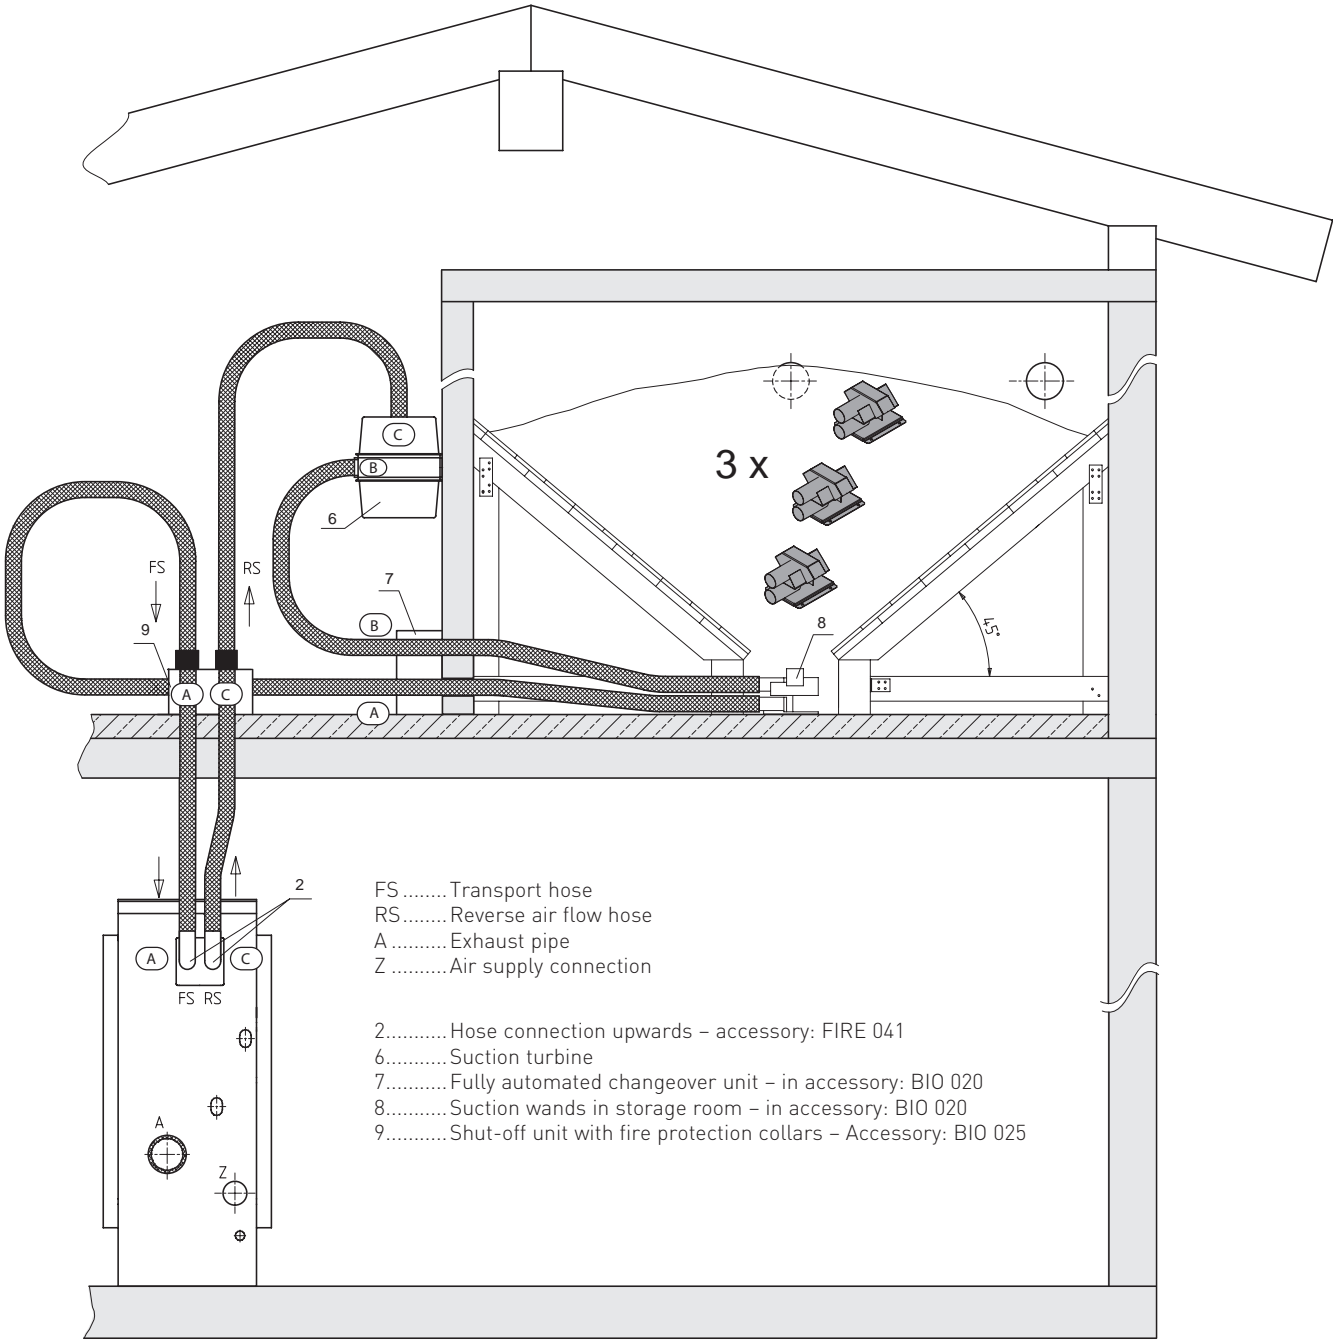

Fig. 20 FireWIN with automatic pellet feed from a storage room inside the unheated non-living areas – View from rear
If the temperature difference between the boiler installation room and the pellet storage room containing the suction turbine and changeover unit is likely to exceed 15°C, installation must be carried out as shown in the sketch, Fig. 20. In this case, a shut-off unit (9) – accessory: BIO 025 – must be installed in the transition point between the heated and unheated areas. This shut-off unit prevents the air from circulating, thereby stopping condensation from forming inside the hoses.